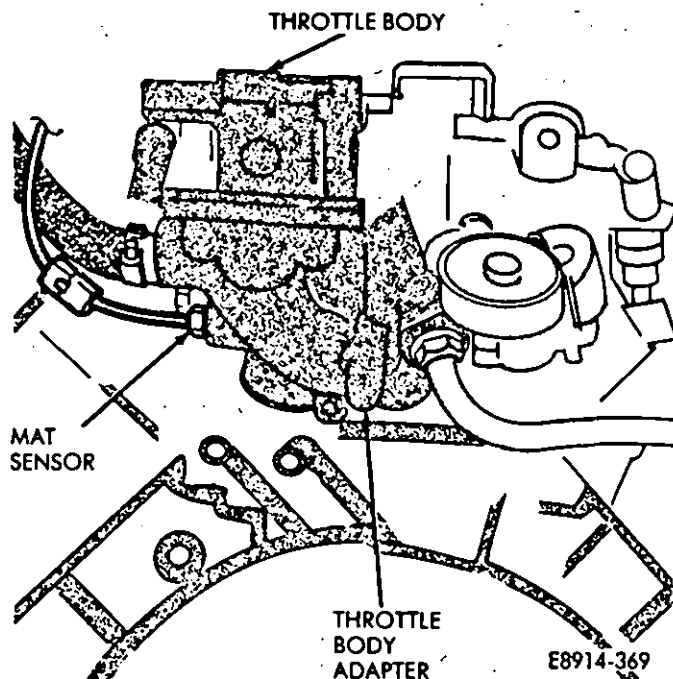

Fig. 14—MAT Sensor Removal/Installation
- (1) Disconnect ICM electrical connectors (Fig. 14).
- (2) Remove high tension wire.
- (3) Remove nuts.
- (4) Remove ICM.
Manifold Air Temperature (MAT) sensor is located in the throttle body adaptor below the throttle body and behind the fitting for the Brake Vacuum Booster (Fig. 14).
- (1) Disconnect electrical connector (Fig. 14).
- (2) Unscrew MAT sensor from the adaptor.
- (1) Install MAT sensor in throttle body adaptor (Fig. 14).
- (2) Tighten the MAT sensor to 28 N·m (21 ft-lbs) torque.
- (3) Connect electrical connector.